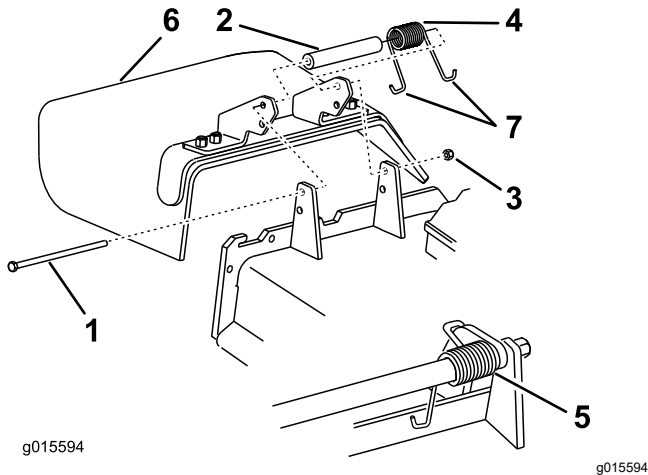

Figure 94
1. Remove the locknut, bolt, spring, and spacer holding the deflector to the pivot brackets (Figure 94).
2. Remove the damaged or worn grass deflector (Figure 94).
Note: Make sure that 1 J-hook end of the spring is installed behind the deck edge before installing the bolt as shown in Figure 94.
6. Place 1 J-hook end of the spring around the grass deflector (Figure 94).